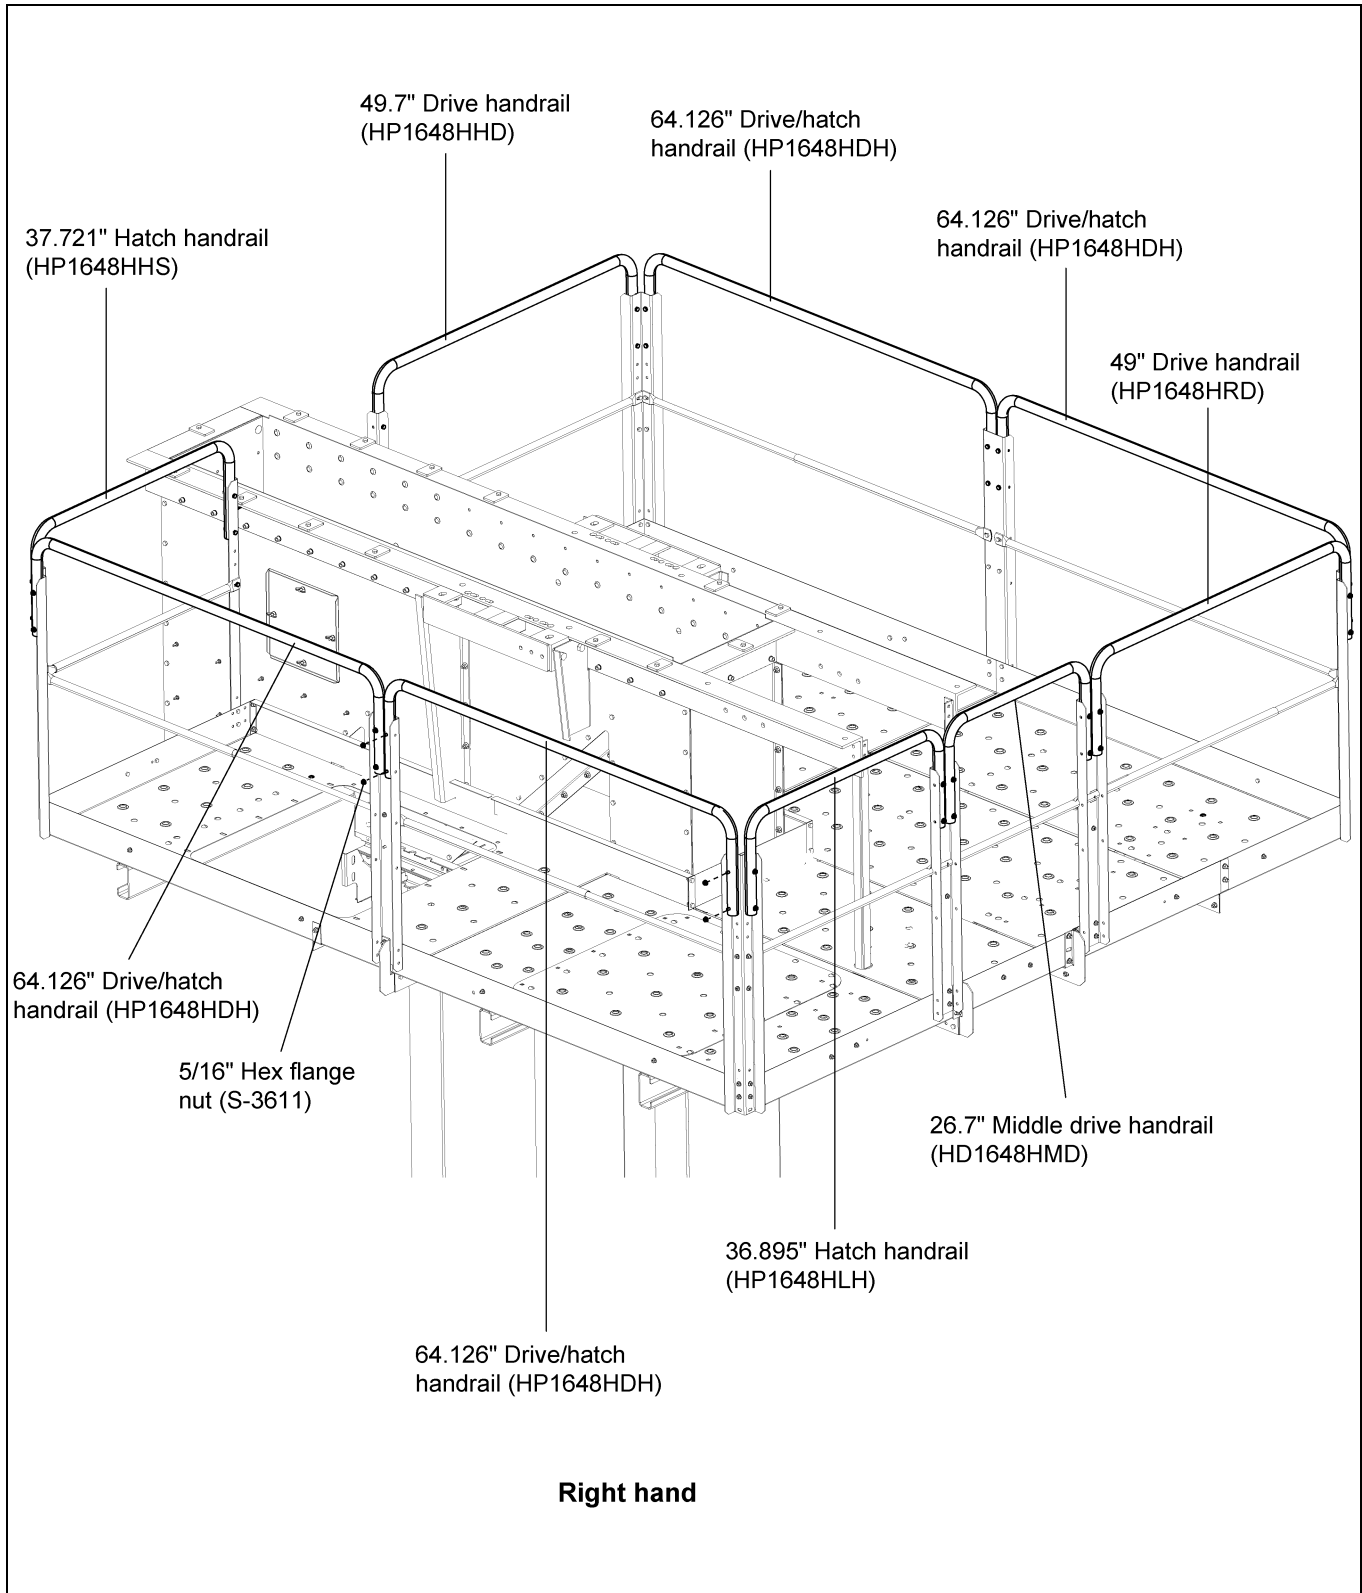

Figure 10J Right Hand Drive Rail Locations
1. Attach handrails to the handrail posts using 5/16" x 2" bolts (S-7877) and hex nuts. Use *Figure 10J* for handrail location.